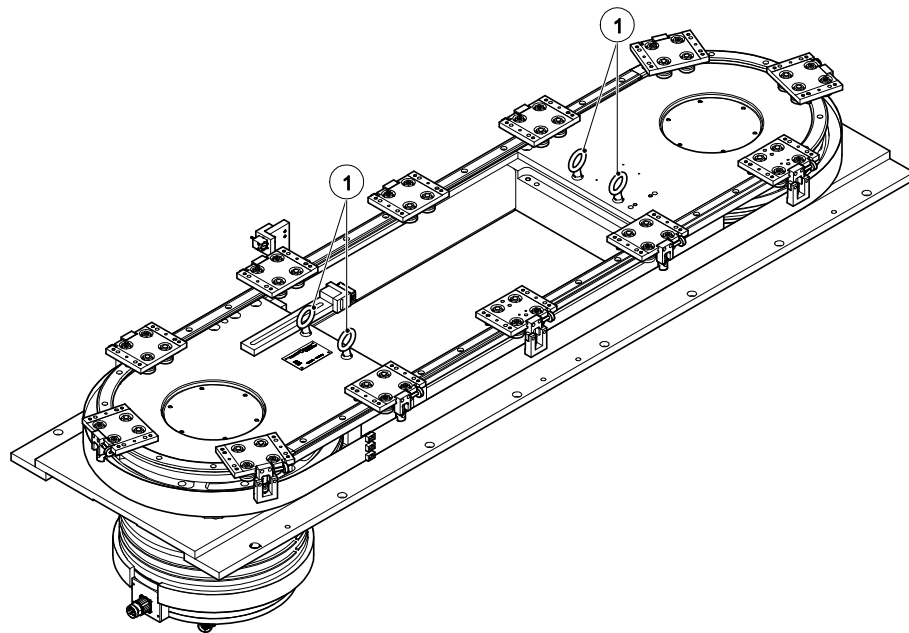

Figure 2 Arrangement of the eye bolts
The linear indexing conveyor can be transported using hoisting tackle and a crane or a forklift truck. Four eye bolts (Figure 2/1 on page 12) (accessory) must be screwed into the linear indexing conveyor to allow the hoisting belts to be attached.
The linear indexing conveyor is delivered packed on a pallet. Four eye bolts (Figure 2/1) to which hoisting gear can be attached are screwed into the linear unit.
Remove the four eye bolts (Figure 2/1) after installation.
- (3) Screw in four eye bolts (Figure 2/1) and attach hoisting gear.